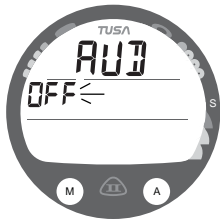

Fig. 19 - SET AUDIBLE AL
**Set Audible Alarm**, information includes (Fig. 19):